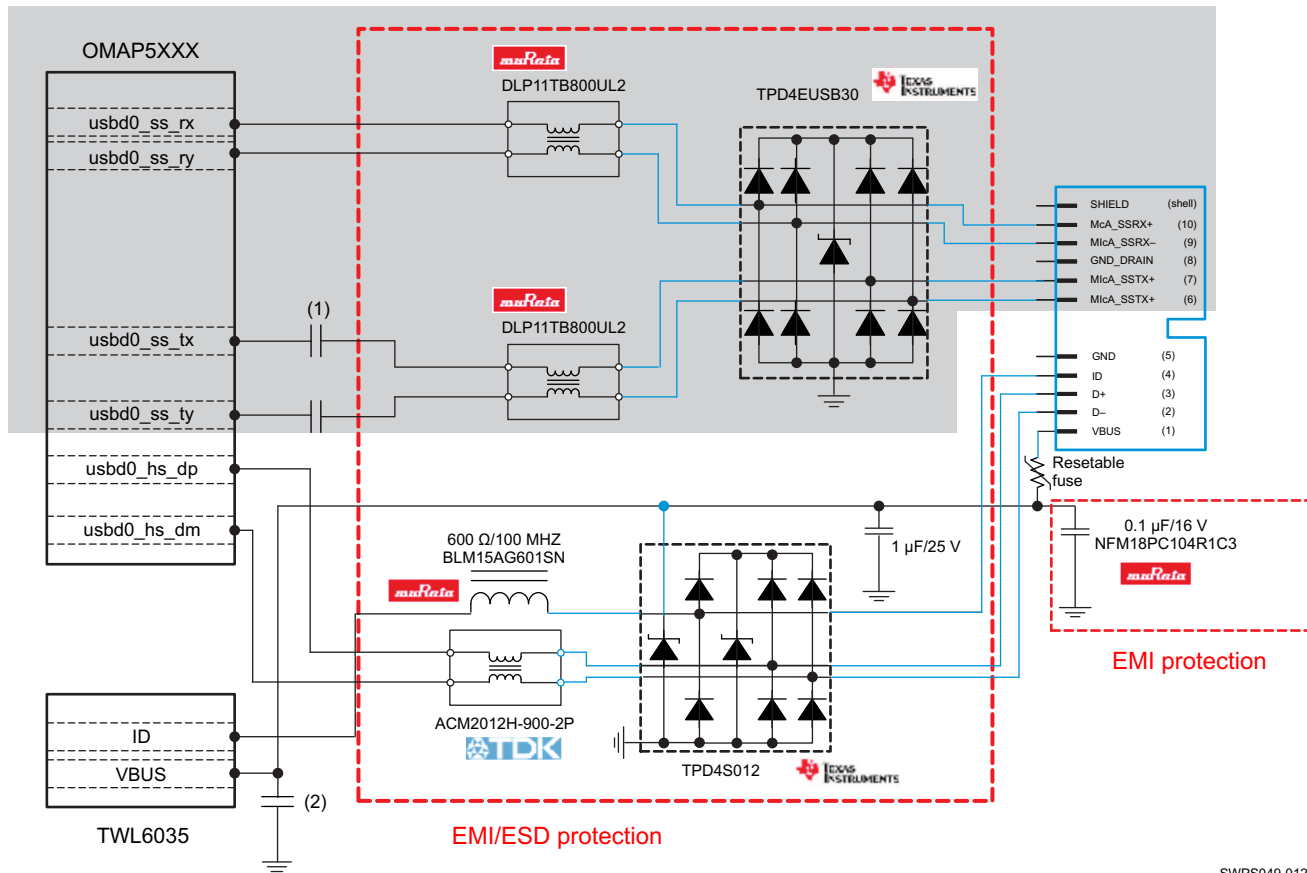

Figure 7-33. USB HS Implementation Proposal (ESD/EMI Protection)
7.5.3.1.1.2 USB High-Speed (HS) Implementation Proposal
Figure 7-33 proposes an example of USB high-speed (HS) PHY implementation with a PMIC and a TPD4S012 component.